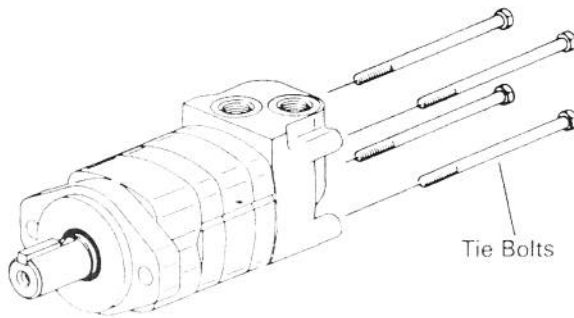

Figure 90
SERVICING PISTON BLOCK AND CAM PLATE ASSEMBLY (Fig. 90)
3. Remove 4 bolts from motor (Fig. 90).